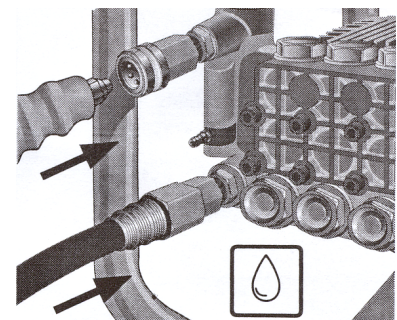

Fig. 5: Connect Hoses
- g. Connect water hose to water source and turn on to remove air from hose. When a steady stream of water is present, turn off the water and connect hose to water inlet of pump (Fig. 5).
- h. Connect high pressure hose to pump outlet (Fig. 5).